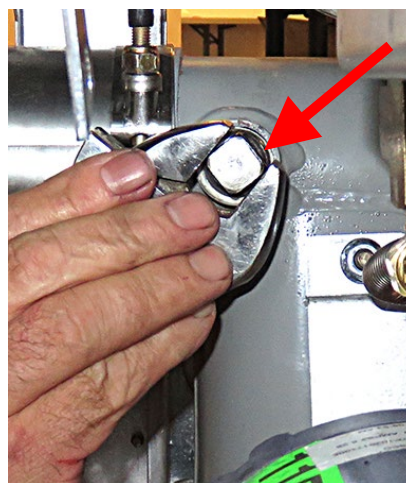

Figure 37
41. Remove the plug from the rear of the drain tube (see Figure 37).